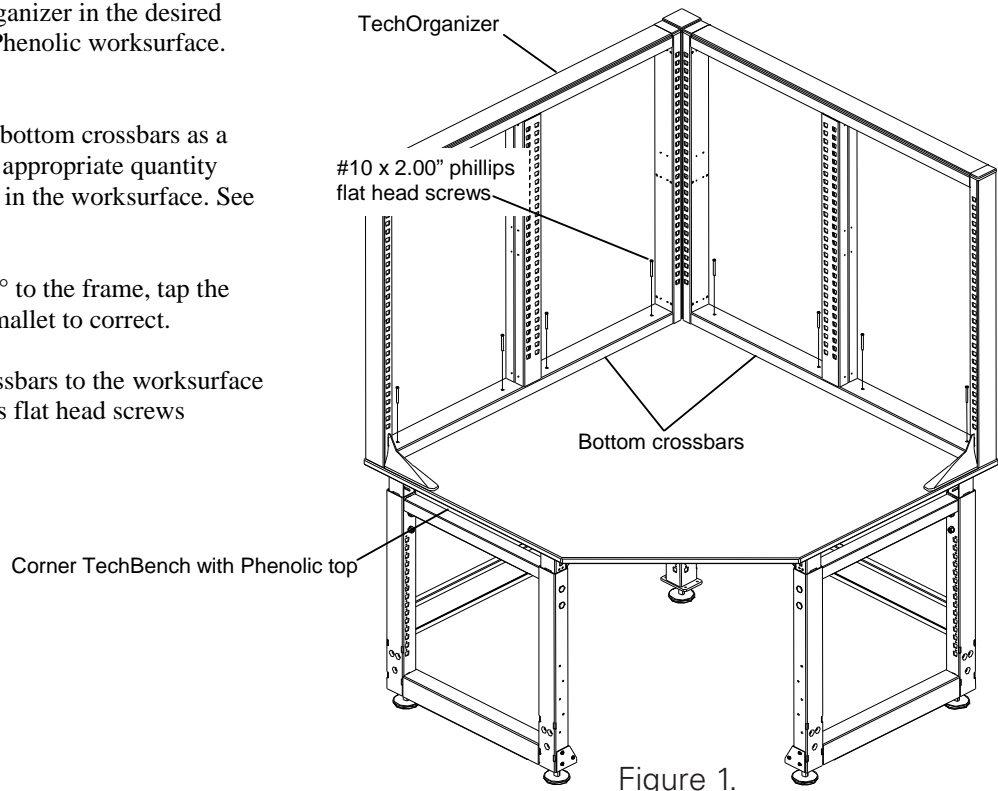

Figure 1.
1. Position the Corner TechOrganizer in the desired location on the back of the Phenolic worksurface. See figure 1.
2. Using the holes in the frame bottom crossbars as a template, locate and drill the appropriate quantity of .164 dia. holes .650" deep in the worksurface. See figure 1.
3. Attach the frame bottom crossbars to the worksurface using the #10 x 2.00" phillips flat head screws provided. See figure 1.